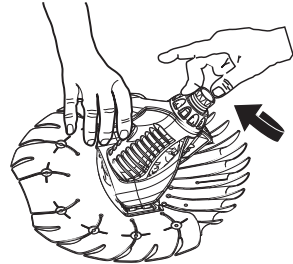

Figure 10
5. Make sure the extension tube swivels freely by spinning it (see Figure 10).